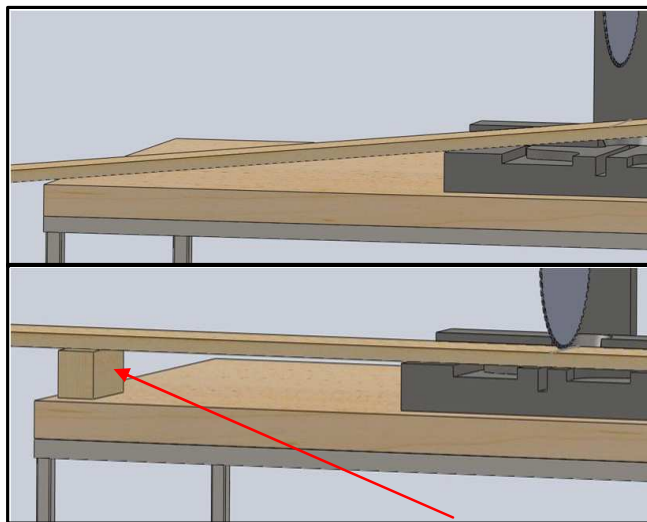

Figure 2: Propping up the board with a shim
- C. Place the board on the **Miter Saw table** so the 100 mm mark is close to the blade. Place a shim that is the same height as the miter saw table underneath the end of the board farthest away from the saw as shown in Figure 2.